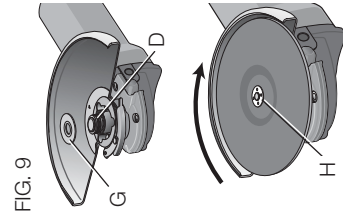

FIG. 9
- H. Threaded clamp nut (Fig. 9)